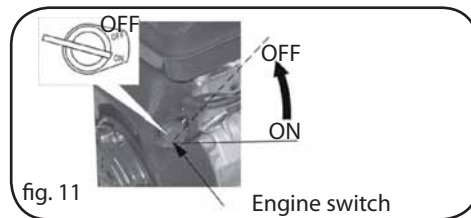

fig. 11
2. Push the engine switch to the OFF position (Fig. 11).